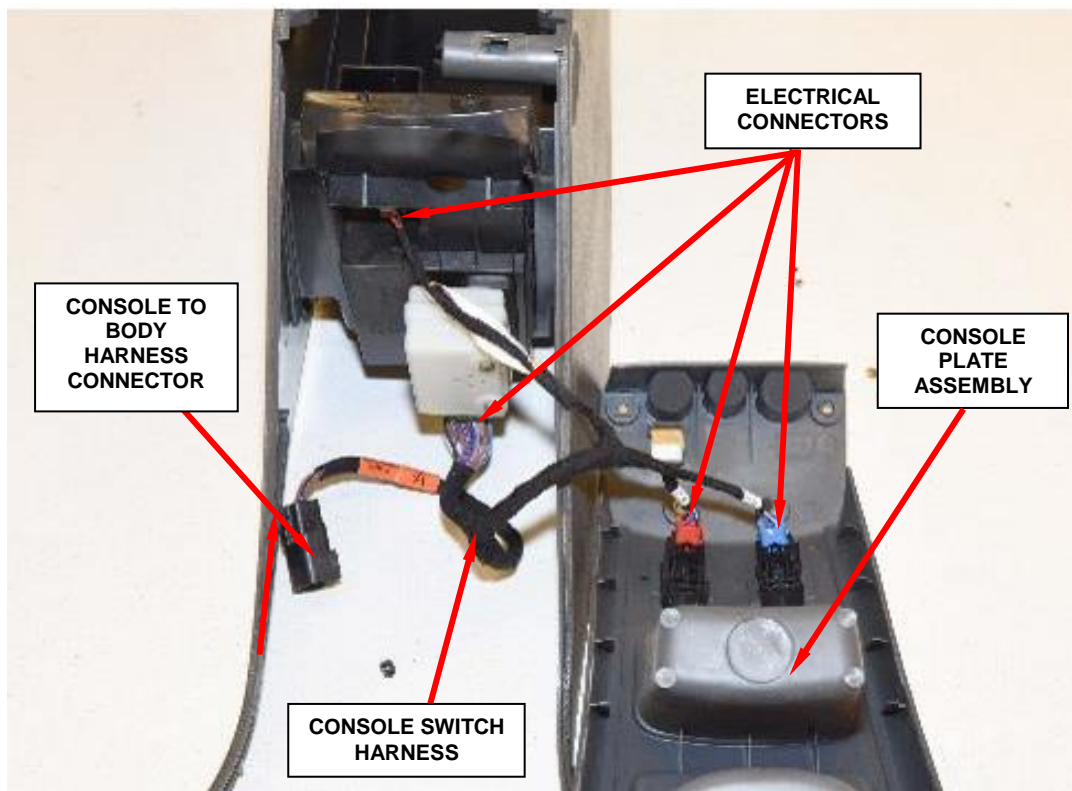

Figure 7 – Console Switch Harness
10. Disconnect the heated seat harness electrical connectors (Figure 7).
11. Remove and **DISCARD** the console switch harness (Figure 7).
12. Remove and **DISCARD** the floor console plate assembly (Figure 7).